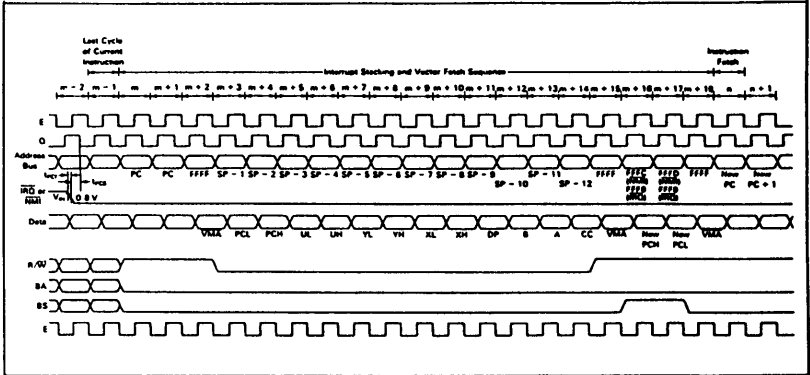

Figure 6. IRQ and NMI Interrupt Timing
A negative edge on NMI requests that a non-maskable interrupt sequence be generated. A non-maskable interrupt cannot be inhibited by the program, and also has a higher priority than FIRQ, IRQ or software interrupts. During recognition of an NMI, the entire machine state is saved on the hardware stack. After reset, an NMI will not be recognized until the first program load of the hardware stack pointer (S). The pulse width of NMI low must be at least one E cycle. If the NMI input does not meet the minimum set up with respect to Q, the interrupt will not be recognized until the next cycle. See figure 6.
A low level input on  $\overline{\text{IRQ}}$  will initiate an interrupt request sequence provided the mask bit (I) in the CC is clear. Since  $\overline{\text{IRQ}}$  stacks the entire machine state it provides a slower response to interrupts than  $\overline{\text{FIRQ}}$ .  $\overline{\text{IRQ}}$  also has a lower priority than  $\overline{\text{FIRQ}}$ . Again, the interrupt service routine should clear the source of the interrupt before doing an RTI. See figure 6.